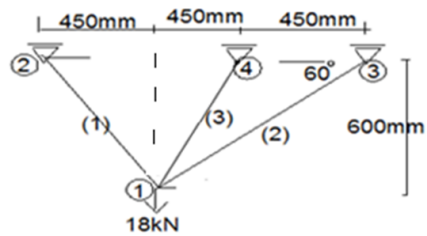

Figure 5
4. (a) For the plane truss shown in below Figure 5 determine the element stiffness matrix and vertical displacement at nodes. Assume cross section area of members 250mm^2 $E=2 \times 10^5 \text{MPa}$. [7M]